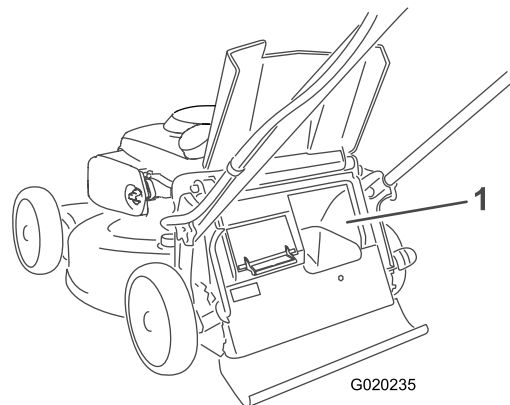

**Figure 20**
- For bagging the grass and leaf clippings, press the button on the bag-on-demand lever and move the lever forward until the button on the lever pops up (Figure 20).